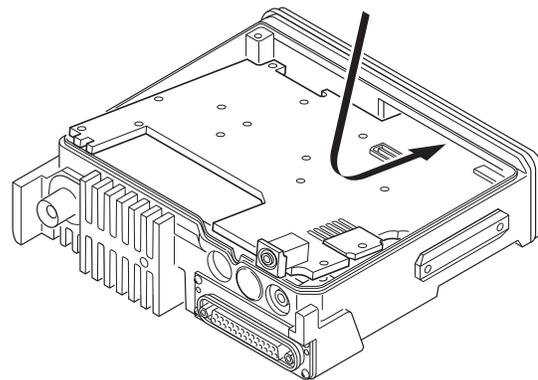

Fig. 4
2. Place the TX-RX PCB at its original position, tilt the TX-RX PCB and install the chassis as shown in Figure 4.